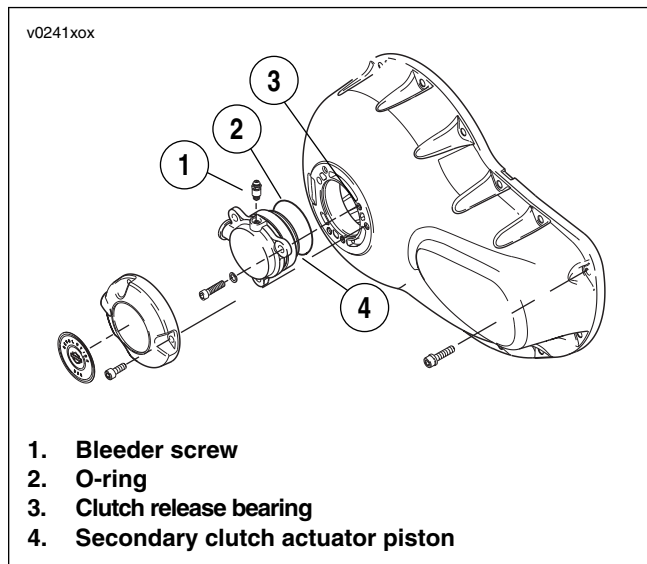

Figure 2-51. Secondary Clutch Actuator
3. See Figure 2-51. Inspect O-ring (2). Replace if necessary and re-install actuator.